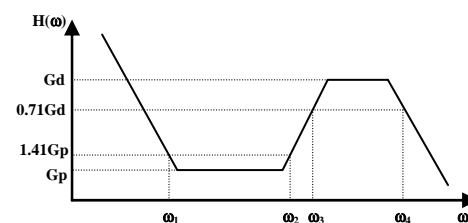

Figure 11. Transfer Function of the Compensation Network
The transfer function of the compensation network, defined as  $H(\omega) = \text{VTEC}(\omega) / \text{TEMPSET}(\omega)$ , is shown in Figure 11.
- d.  $C_D \cdot R_I$  determines the corner frequency,  $\omega_2 = 1/(C_D \cdot R_I)$ , where the differential component starts picking up (see Figure 11), as the frequency goes up.